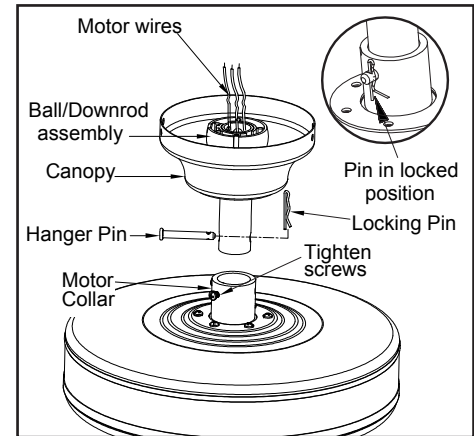

Figure 6
3. Make sure the slot openings are on top. Route the wires through the canopy and then through the ball/downrod assembly. (Figure 6)
5. Align the holes at the bottom of the downrod with the holes in the collar on top of the motor housing. (Figure 6)
Carefully insert the hanger pin through the holes in the collar and downrod. Be careful not to jam the hanger pin against the wiring inside the downrod. Insert the locking pin through the hole near the end of the bolt until it snaps into its locked position, as noted in the circle inset of Figure 6.
The fan shipped from the factory with the reversing switch positioned to circulate air downward. If airflow is desired in the opposite direction, turn your fan off and wait for the blades to stop turning, then slide the reversing switch (located on the switch housing, refer to figure 6 on page 4) to opposite position, and turn fan on again. The fan blades will turn in the opposite direction and reverse airflow.